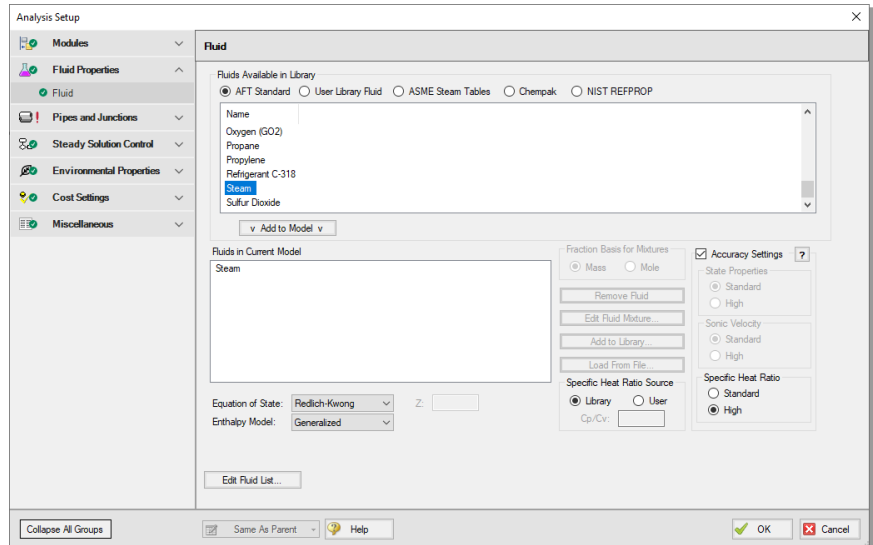

Figure 2.5 Specify the fluid for the analysis in the Fluid panel
- Click on the **Fluid** item to open the Fluid panel (see Figure 2.5). For this example, use the AFT Standard fluid library and select “Steam” in the upper list, then click the “Add to Model” button below the list. Leave the Equation of State model as “Redlich-Kwong” and the enthalpy model as “Generalized”.